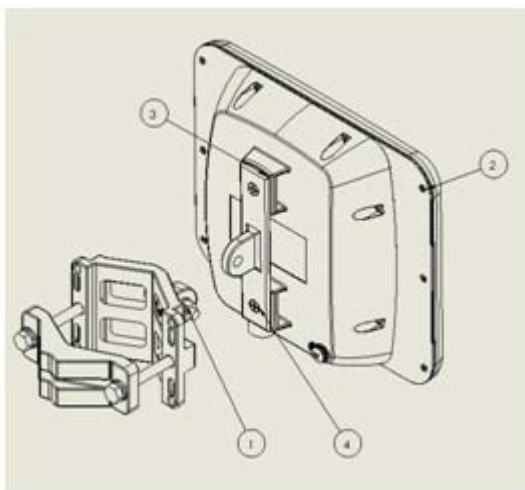

Figure 3-42: Attaching a standard mounting kit
2. Referring to Figure 3-42 below: Attach the ODU mounting kit (1) to the mounting adapter ear (4) and proceed as above, for a standard ODU.